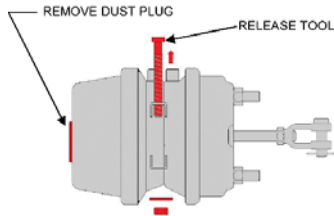

Figure 6
1. Remove the dust plug from the release tool access hole in the center of the spring housing. Figure 6.
2. Remove the release tool assembly from its holder on the adapter base as shown in Figure 6 or from its holder on the spring housing.